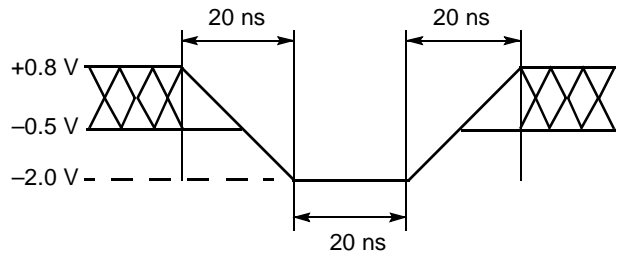
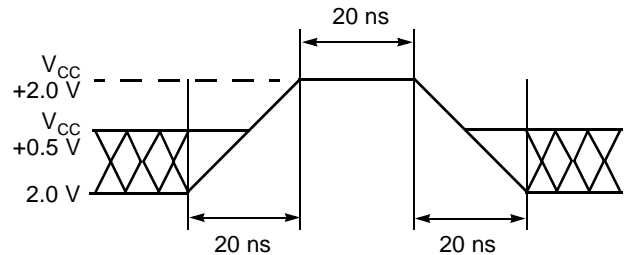

Figure 10. Maximum Negative Overshoot Waveform
Figure 11. Maximum Positive Overshoot Waveform
1. Minimum DC voltage on input or I/O pins is -0.5 V . During voltage transitions, input or I/O pins may overshoot V_{SS} to -2.0 V for periods of up to 20 ns. Maximum DC voltage on input or I/O pins is $V_{CC} + 0.5\text{ V}$. See Figure 10. During voltage transitions, input or I/O pins may overshoot to $V_{CC} + 2.0\text{ V}$ for periods up to 20 ns. See Figure 11.
2. Minimum DC input voltage on pins A9, OE#, ACC, and RESET# is -0.5 V . During voltage transitions, A9, OE#, ACC, and RESET# may overshoot V_{SS} to -2.0 V for periods of up to 20 ns. See Figure 10. Maximum DC input voltage on pin A9, OE#, ACC, and RESET# is $+12.5\text{ V}$ which may overshoot to $+14.0\text{ V}$ for periods up to 20 ns.